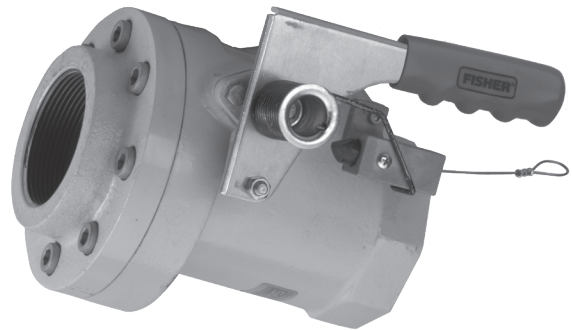

Figure 1. Type N551 in Closed Position
**Type N551** Snappy Joe (Figure 1) emergency shutoff valve is UL® Listed for service in Propane or Anhydrous Ammonia (NH3).